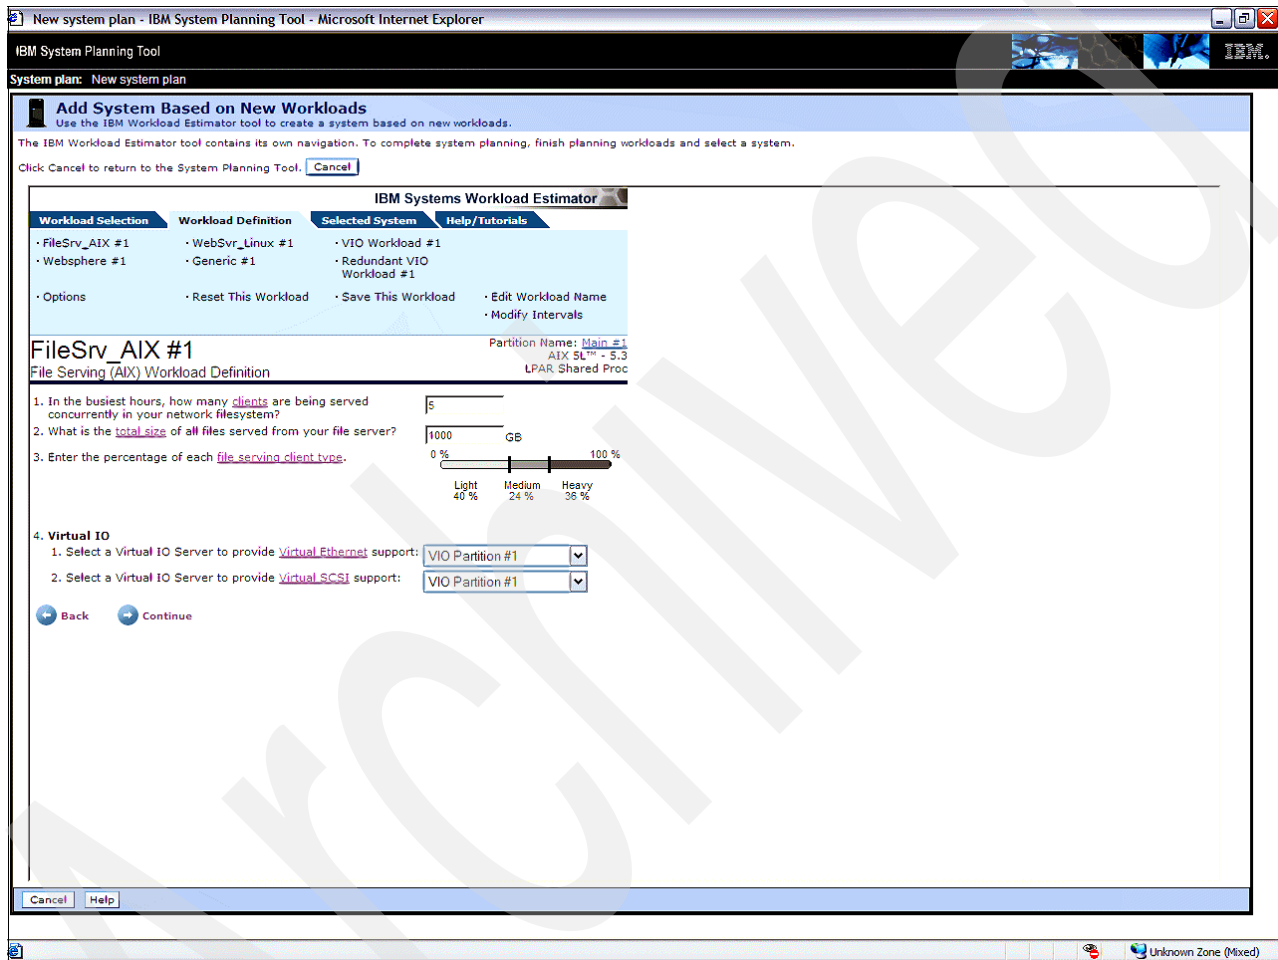

Figure 5-24 AIX file serving and the building of a Virtual I/O Server partition
7. When you chose an AIX file server, the option to create the Virtual I/O Server is an available selection. Figure 5-24 shows the selection options. Each of the following workload definitions has options that you answer. These options are used to determine the CPU, memory, disk, and system selection that the workload requires. In the following examples the values entered do not reflect any specific workload. The value entered for a sizing should reflect a through analysis of the application. Virtual I/O Server allows the virtualization of the disk and networks for AIX and Linux. By making this selection WLE generates a Virtual I/O Server partition. The parameters for these partitions are defined in System Planning Tool Version 2.